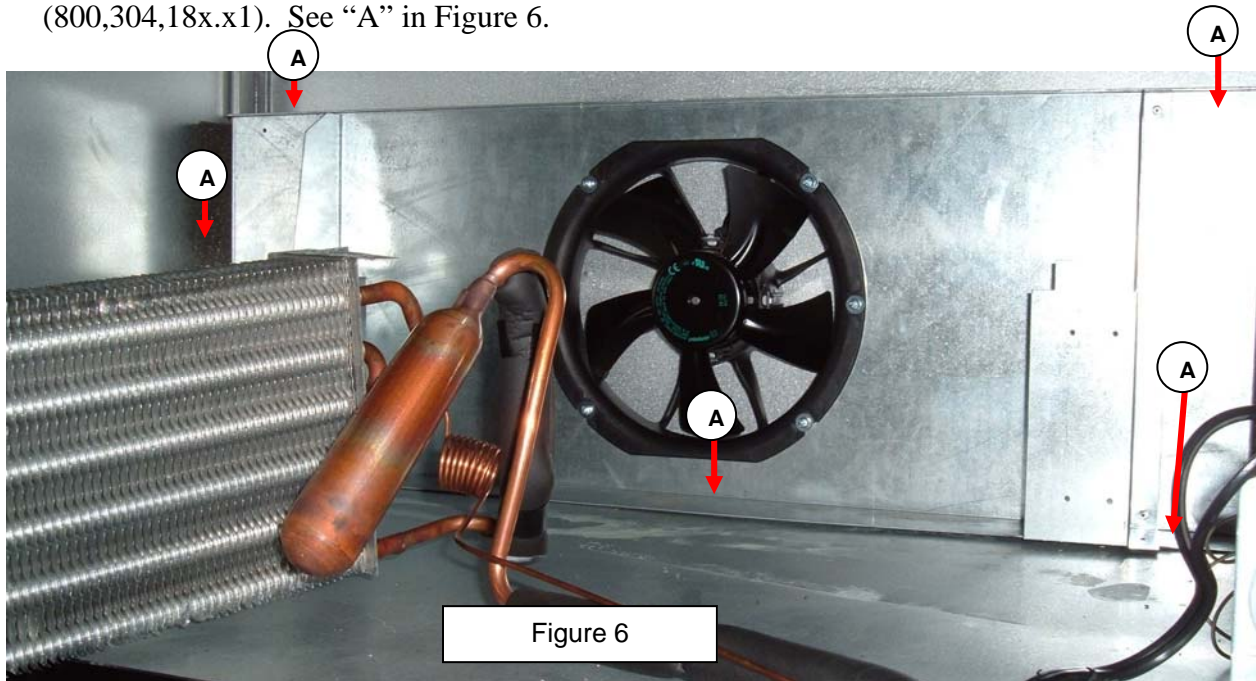

Figure 6
24. With a drill, secure the Evaporator Fan Shroud Assembly with five (5) new Self Drilling Screws (800,304,18x.x1). See "A" in Figure 6.